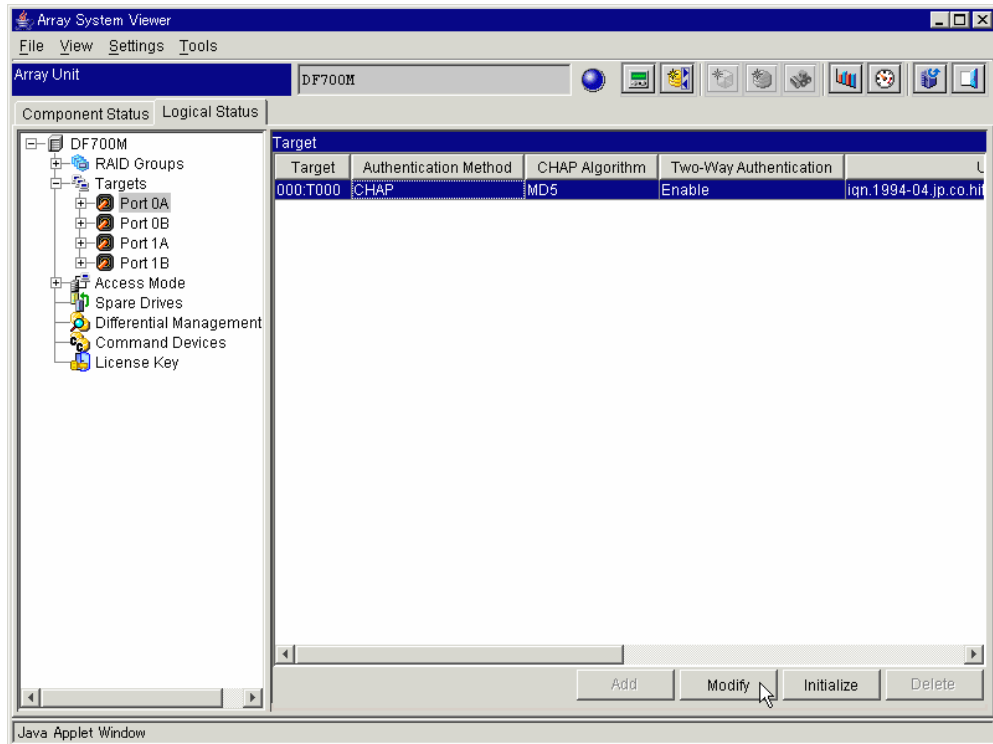

Figure 8.17 Array System Viewer - Target
1. Click the **Logical Status** tab. See Figure 8.17.